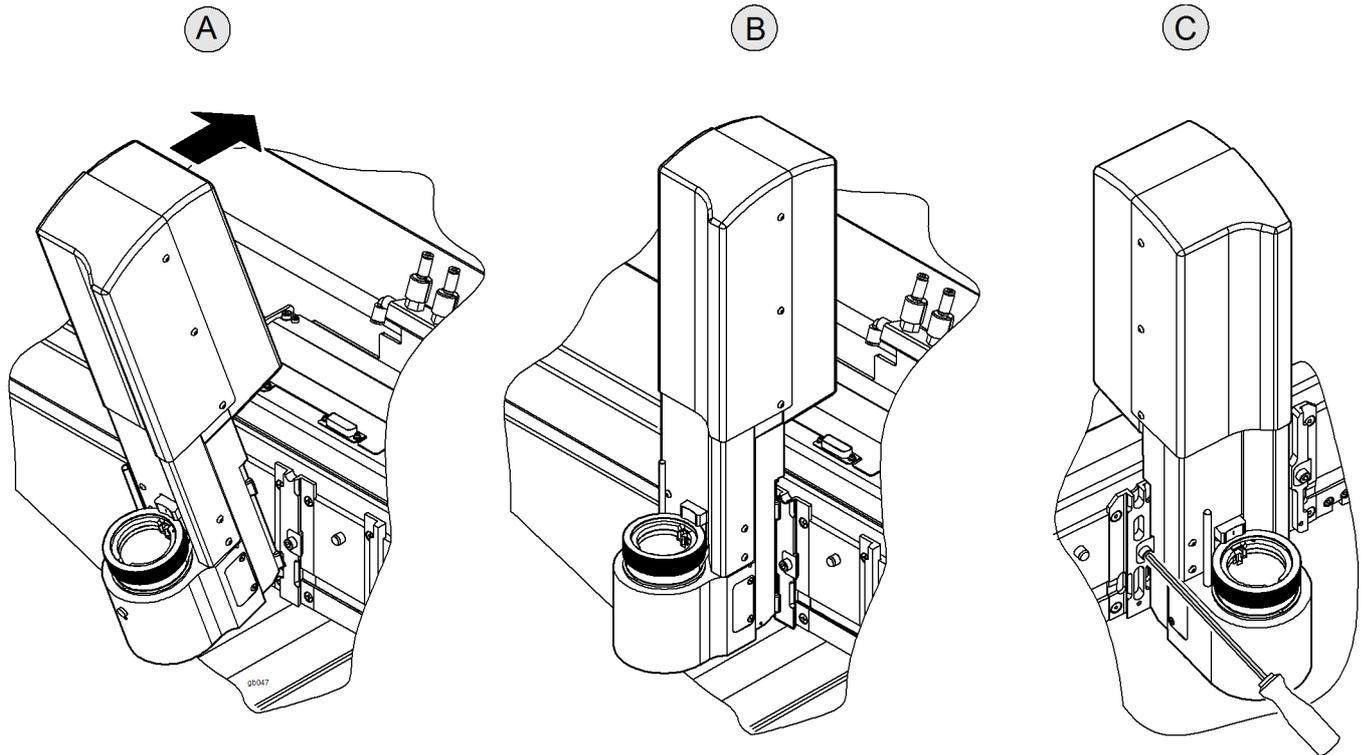

Fig. 4-19 Inserting the module
- ⇒ Position the module on the mounting ledge as shown in Fig. 4-19, step A